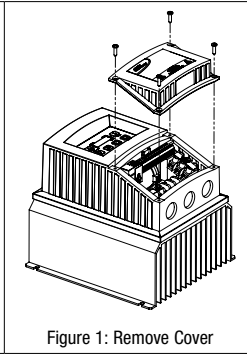

Figure 1: Remove Cover
2. Unscrew the 4 terminal cover screws as illustrated in Figure 1.